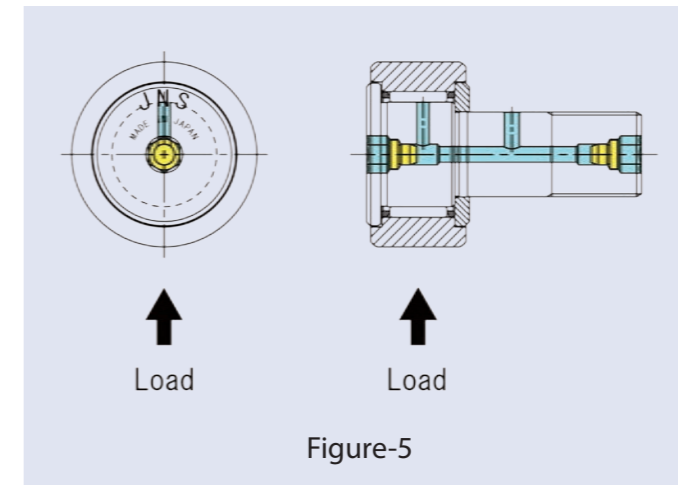

Figure-5
- For application with heavy load, lubrication hole of stud shall be located outside of loading range (on the side to receive load). Location of the lubrication hole is indicated by "JNS" marking on the side of stud flange. (Refer to Figure-5)